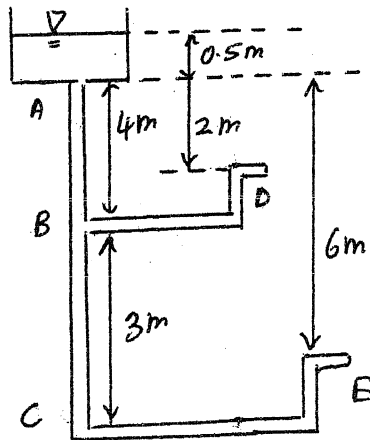

FIGURE 7
7) Figure 7 shows the pipe system in a house. Water is distributed from an overhead tank, X, to two Taps, D and E, through the pipes AB, BD, BC, and CE. The elevations of the points A, B, C, D, and E with respect to the water level in the Tank X are shown on the figure.